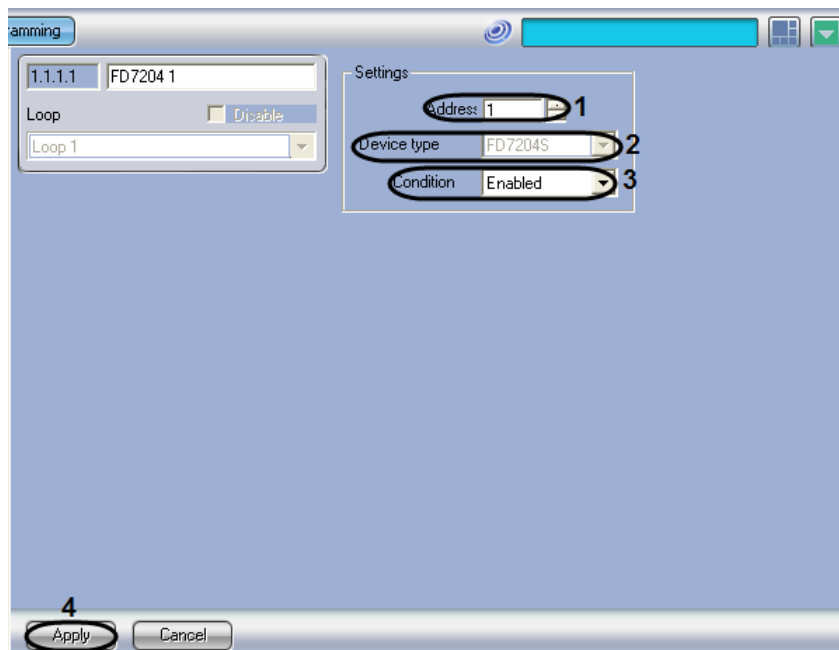

Fig. 3.6—14 Configuring the FD7204 addressable notification appliance
2. Enter the CAN network address of the FD7204 notification appliance into the “Address” field (see Fig. 3.6—14, 1).
*Note.* The “Device type” field automatically displays the type of the connected notification appliance (see Fig. 3.6—14, 2).
3. Select Enabled/Disabled in the “Condition” field (see Fig. 3.6—14, 3).